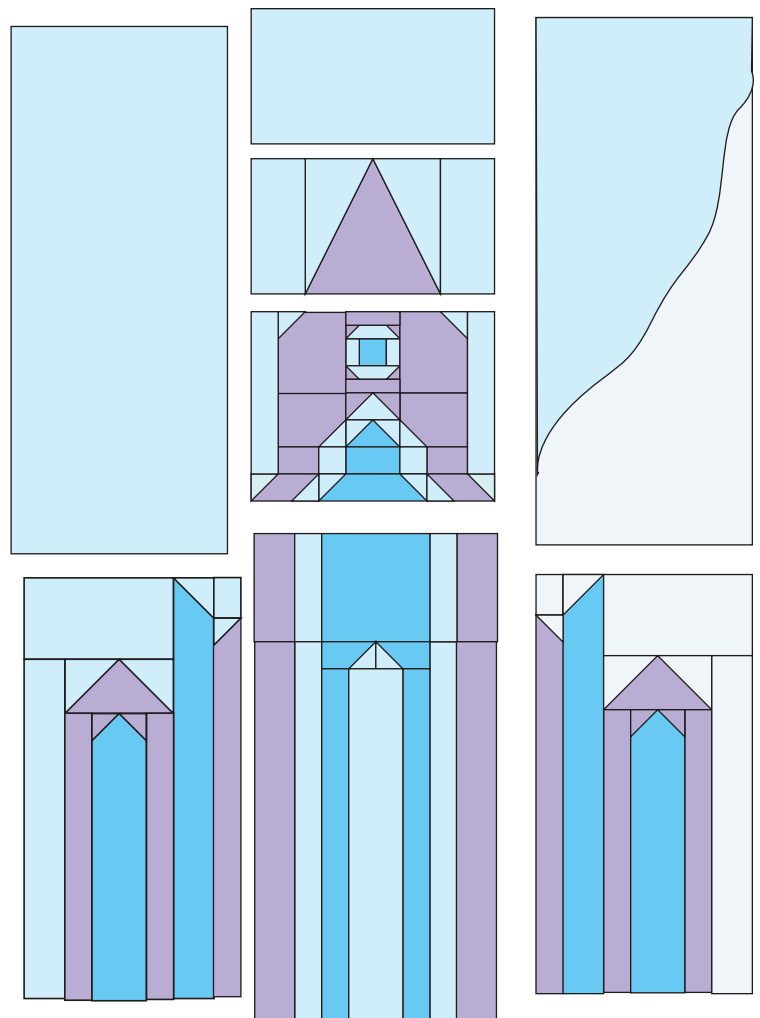

Fig. 27
26. Sew the six blocks, (1) $16 \frac{1}{2}$ " x $39 \frac{1}{2}$ " Fabric E strip and (1) $10 \frac{1}{2}$ " x $18 \frac{1}{2}$ " Fabric E strip together to make the quilt top (Fig. 27).